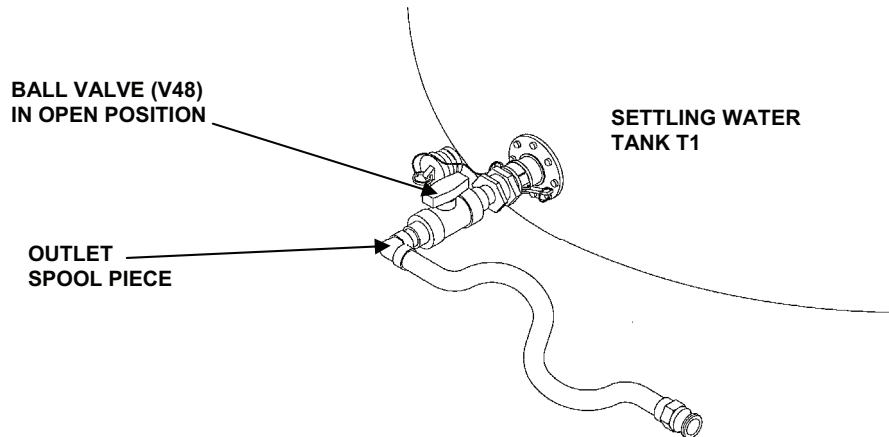

Figure 19. Settling Tank Outlet Valve in OPEN Position.
4. Open valve on settling tank outlet spool piece. See Figure 19.